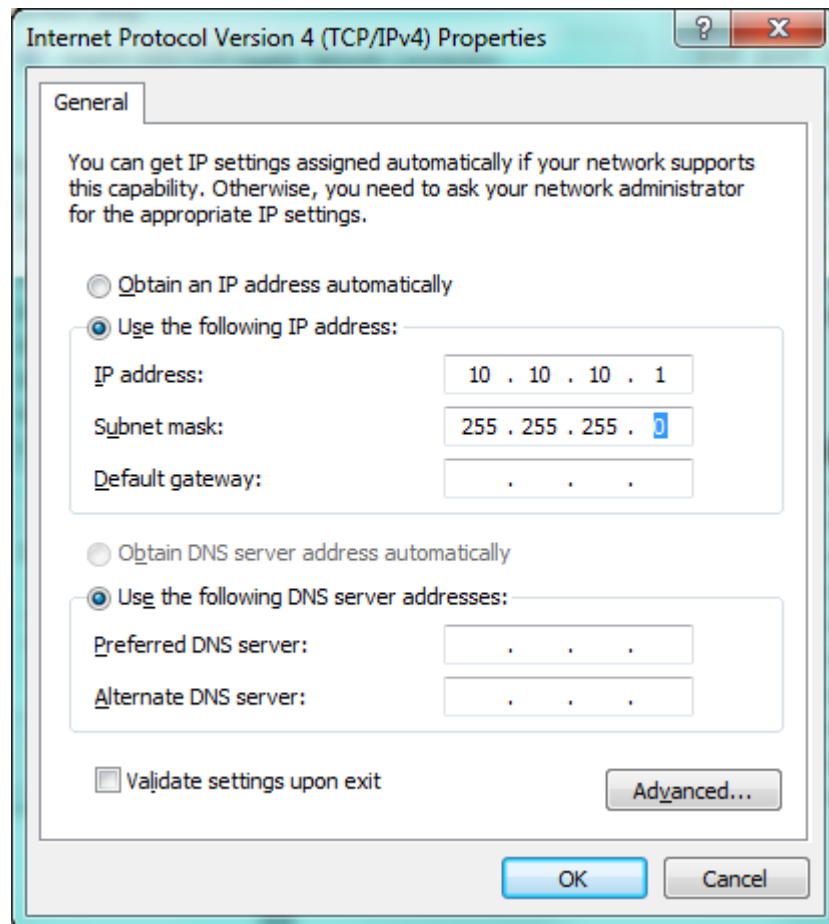

Figure 3: Correct IP settings for PIT.
- Make sure that the settings are as follows (Fig. 3):